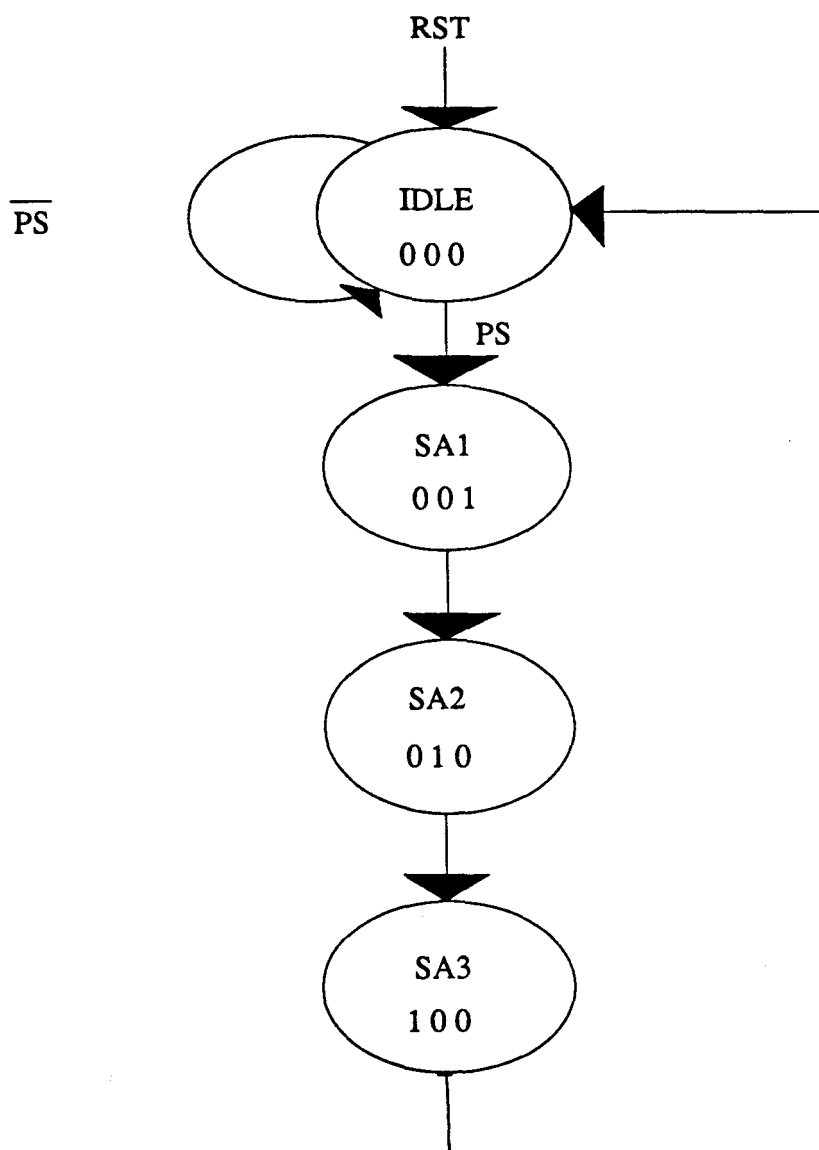

Figure 21:2: State diagram
**PS\* while the LANCE is in T3: Figure 21:6:**
**PS\* while the LANCE is in T4: Figure 21:7:**